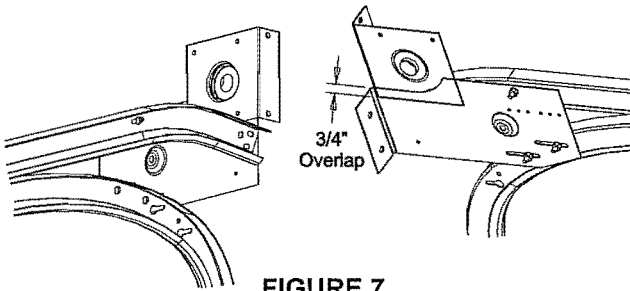

FIGURE 7
- Install the headplate on the inside of the low headroom headplate with a 3/4" of overlap between the headplates. (Figure 7)